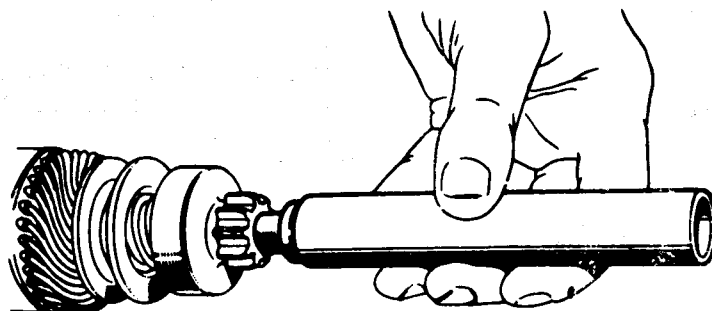

Fig.6 - Removing the Front Stop.
7. If it is necessary to further dismantle the armature (eg. to replace the starter pinion) the front stop must be removed. To remove it, use a tube as shown in Fig.6 to expose the snap rings.